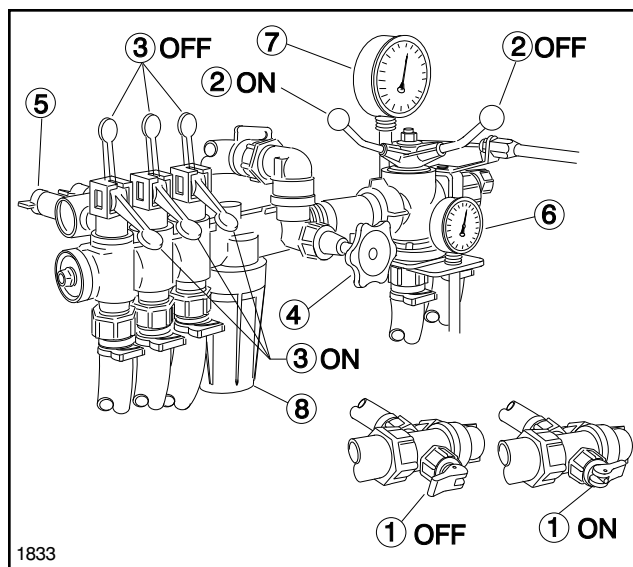

FIG. 6
2. Ensure that the Pressure Control Valve handle is turned counter clockwise to its end point and the main ON/OFF control in the OFF position. Individual boom valves should be in the closed position. (See FIG. 6)